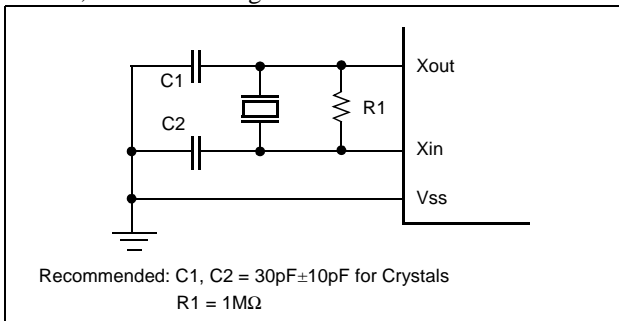

Figure 13-2 Oscillator Connections
XIN and XOUT are the input and output, respectively, a inverting amplifier which can be set for use as an on-chip oscillator, as shown in Figure 13-2 .
**Note:** When using a system clock oscillator, carry out wiring in the broken line area in Figure 13-2 to prevent any effects from wiring capacities.